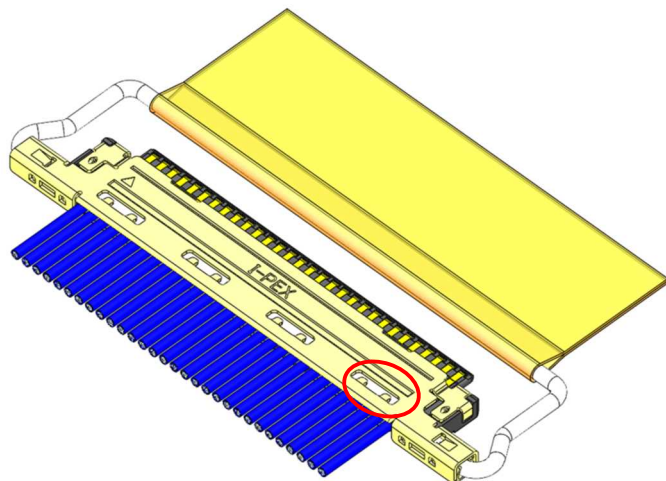

Fig.11 Soldering of SHELL-A and GND BAR
③ SHELL-A,B and GND BAR are soldered with the soldering iron. (Fig.11,12 ◆ point)
※In case of soldering discrete cable, soldering at Fig.11,12 ◆point is impossible.